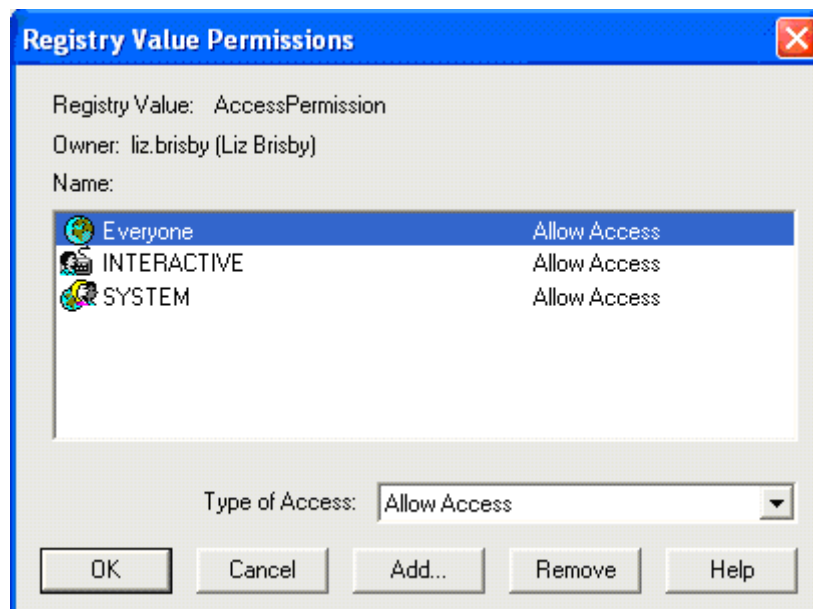

Figure 41 - Registry Value Permissions Window
8. The **Registry Value Permissions** window (Figure 41) appears.